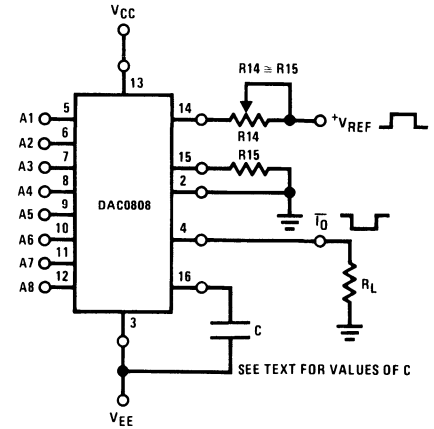

FIGURE 7. Positive  $V_{REF}$  (Note 7)
**Curve A:** Large Signal Bandwidth Method of Figure 7,  $V_{REF} = 2 \text{ V}_{p-p}$  offset 1 V above ground.
**Curve B:** Small Signal Bandwidth Method of Figure 7,  $R_L = 250\Omega$ ,  $V_{REF} = 50 \text{ mV}_{p-p}$  offset 200 mV above ground.
The reference amplifier provides a voltage at pin 14 for converting the reference voltage to a current, and a turn-around circuit or current mirror for feeding the ladder. The reference amplifier input current,  $I_{14}$ , must always flow into pin 14, regardless of the set-up method or reference voltage polarity. Connections for a positive voltage are shown in Figure 7. The reference voltage source supplies the full current  $I_{14}$ . For bipolar reference signals, as in the multiplying mode,